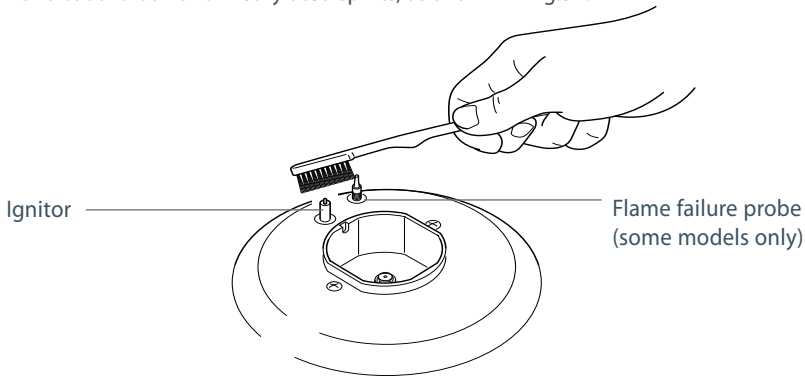

Fig. 31 Cleaning the probe (some models only) and ignitor
- The ignitors are sparking. If the ignitors are not sparking, they may be dirty or wet. Clean them with a toothbrush and methylated spirits, as shown in Fig.31.
- Note: both the ignitor and probe must be very carefully cleaned using a toothbrush and methylated spirits (see Fig.31).